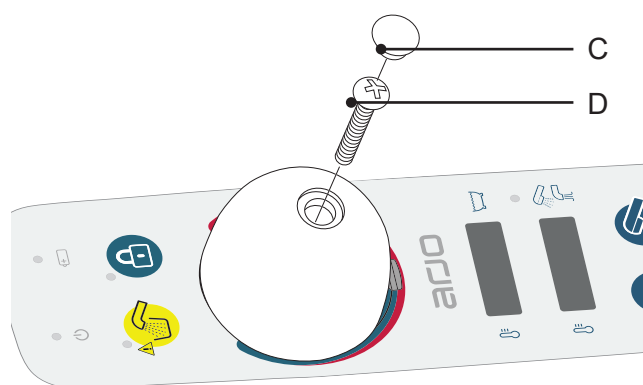

Fig. 24
21. From the assembly kit take out the screw (D) and the plug (C). Tighten the Water temperature settings knob with the screw and cover the screw with the plug. See Fig. 24.